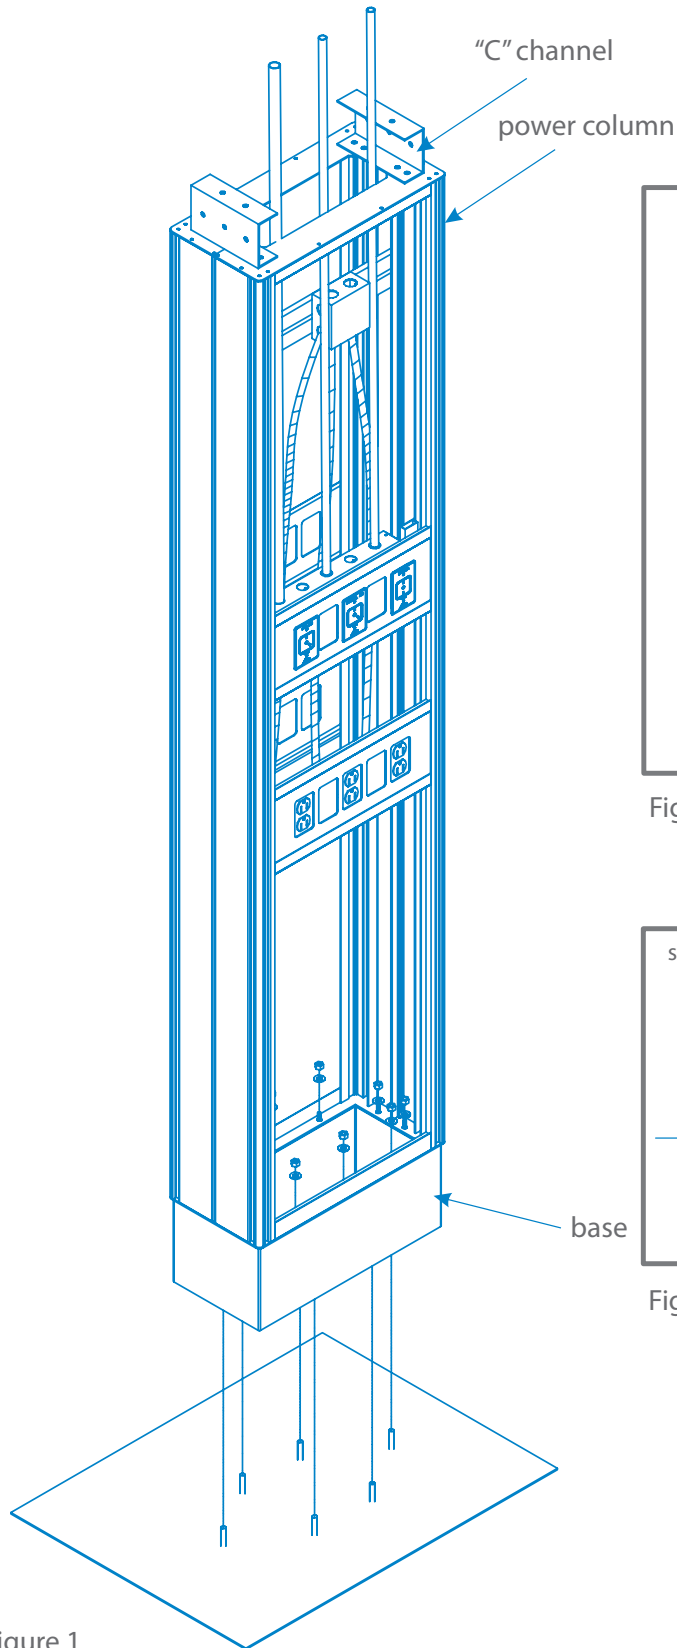

Figure 1
3. Anchor base of column to floor (hardware by others). Note that base does not have to be removed to complete this step. See figure 1.